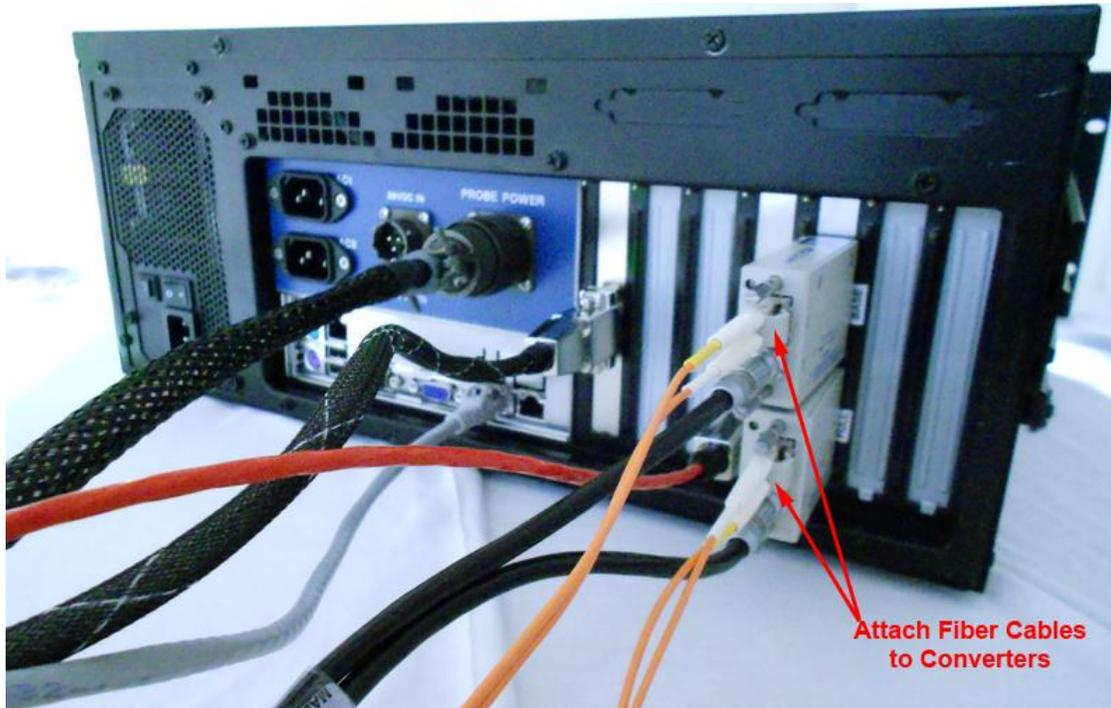
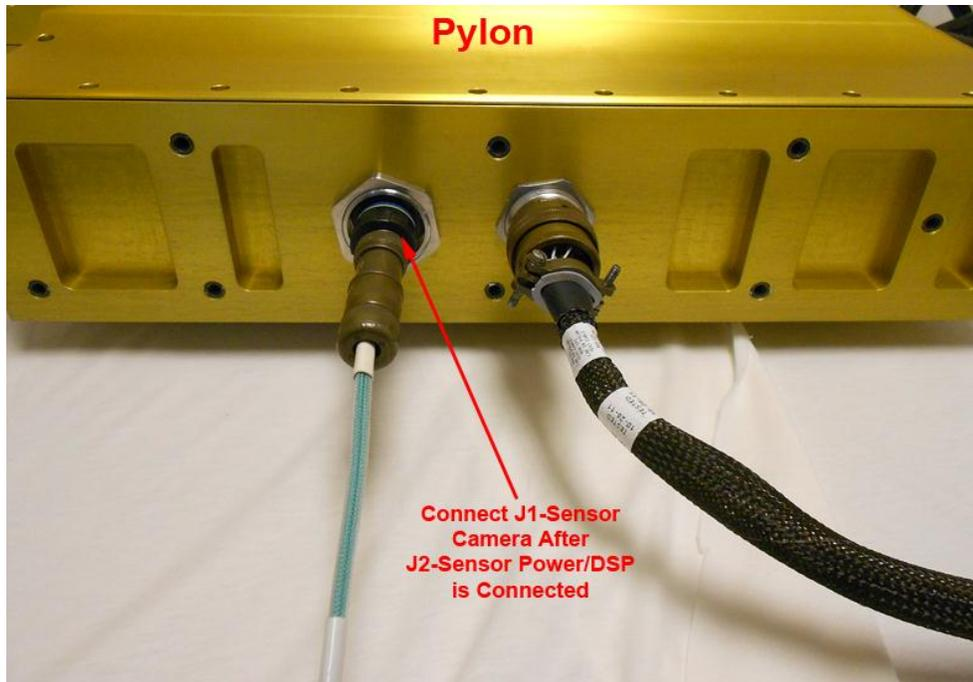

Figure 2.2.10. Attaching fiber cables to converters.
Figure 2.2.14. Connecting the sensor camera cable to the sensor head.
See **Figure 2.2.10**: Connecting fiber cables to converters, and **Figure 2.2.14**: Connecting the sensor camera cable to the sensor head.
8. Connect the sensor camera cable that runs from J1 on the DAS to J1 on the sensor head. See **Figure 2.2.14**: Connecting the sensor camera cable to the sensor head.